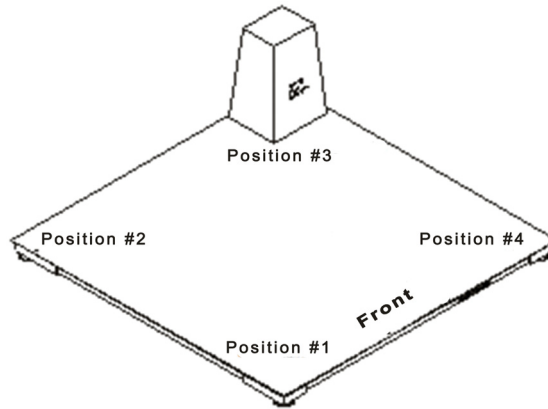

FIG. 13 SCALE VERIFICATION/POSITION #3
- Step 2. Place the test weight at Position #1 on the platform. (See Fig. 13)